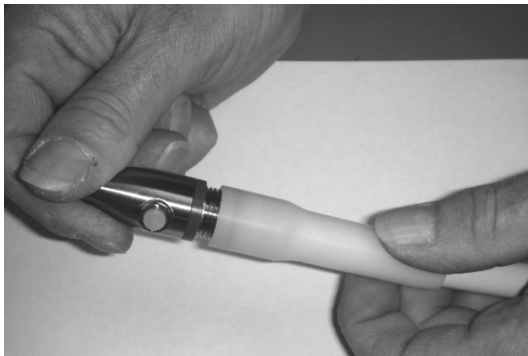
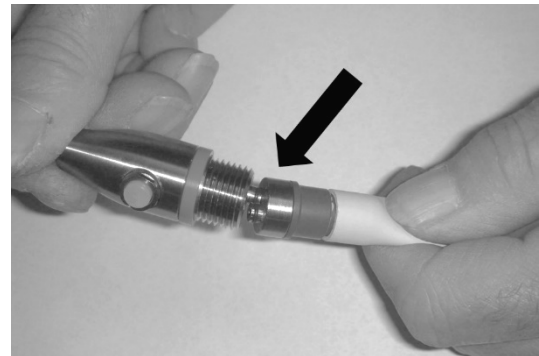

Fig. 1
Fig. 2
- 4 While holding the metal body of the irrigation handpiece, unscrew the white handle from the base and slide down tubing. Remove the head of the irrigator. (Fig. 1; Fig. 2)